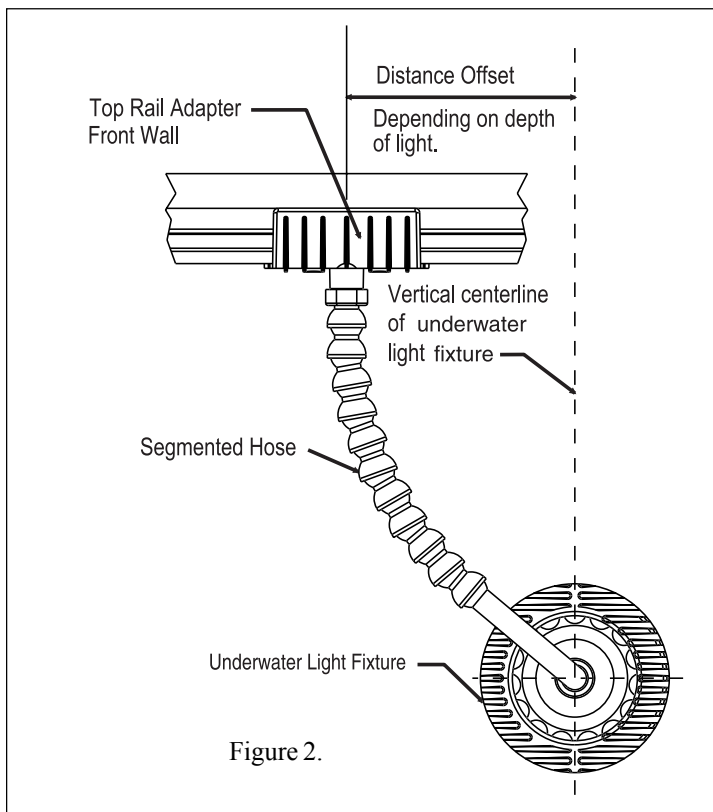

Figure 2.
1. Select the location for the top rail adapter. Place the top rail adapter to either side of the vertical center line of the light, allowing the adapter lens to be easily positioned directly in front of the center of the above-ground light lens; see Figure 2.
3. Place the piece of double-sided foam tape on the inside face of the front wall of the top rail adapter; see Figure 2.